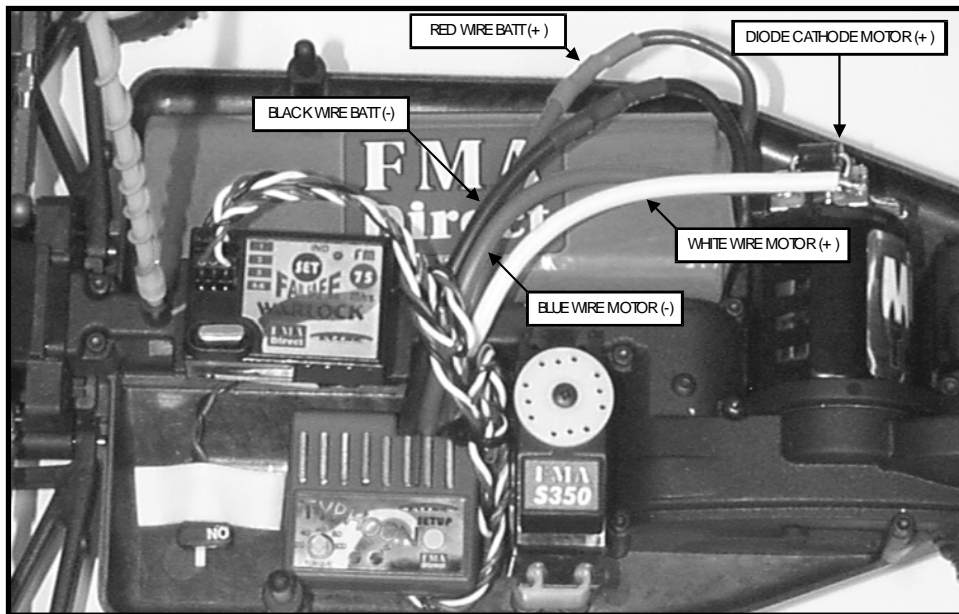

Figure 1 - ESC Installation
Refer to figure 1 when connecting the TYPHOON to your R/C receiver, motor, and battery pack. Please read the following section completely making certain to follow the directions in the proper order before applying power to the unit.
1. Verify that the TYPHOON is mounted in the vehicle as illustrated in Figure 1 and described in the previous section, RECEIVER / MOTOR / BATTERY CONNECTIONS.